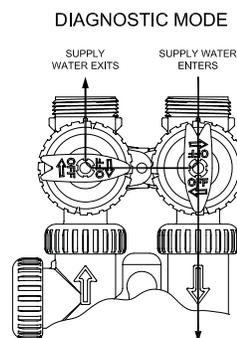

figure 3
3. Diagnostic Position: The inlet handle points in the direction of flow and the outlet handle points to the center of bypass valve. System water pressure is allowed to the control valve and the building plumbing system while not allowing water to exit from the control valve to the building plumbing. (see figure 3)
SLOWLY turn bypass valve to **DIAGNOSTIC** position (see figure 3 on page 4) to allow water to slowly enter filter in order to expel air.